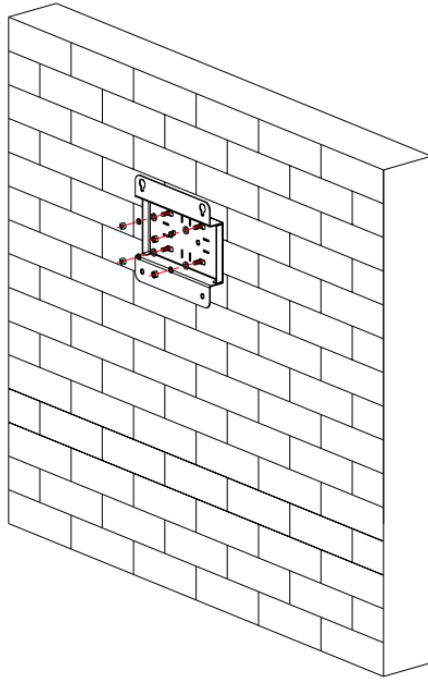

Figure WM-2
5. Mount the mounting bracket horizontally to the wall by fixing the wall mounting screws into the wall plugs (Figure WM-2).